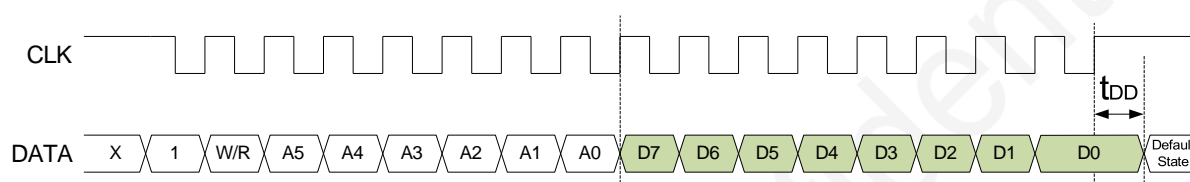

Figure 24. TWI W/R Timing Chart (Except for TWI_RST Command)
5. The DATA pin is a bi-directional port, and it will be switched to output port in the last 8 clock cycle of a Read command. At this time, the host MCU should switch the corresponding port which is connected to the DATA pin to input port at the coming CLK rising edge, shown as dash line in the middle of Figure 24, so that there is no voltage conflict between the two ports and the read out function is correctly behaved.